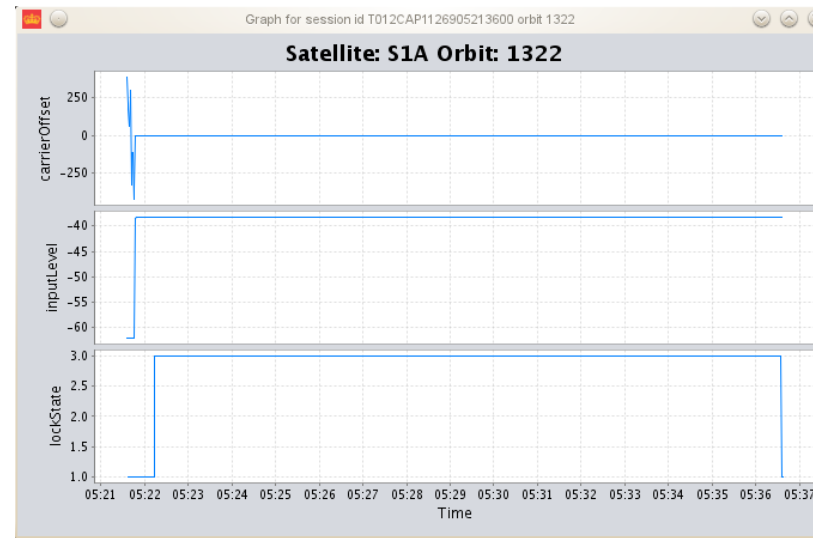

Figure 66: Graph window
- ☐ To view parameters as graphs (see figure 66), toggle the right box.